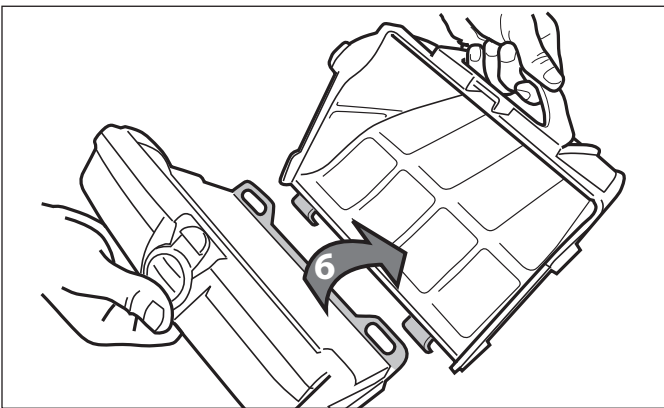

Figure 23. Remove Filter Canister
8. Separate the filter canister from the filter support (6), as shown in Figure 23.